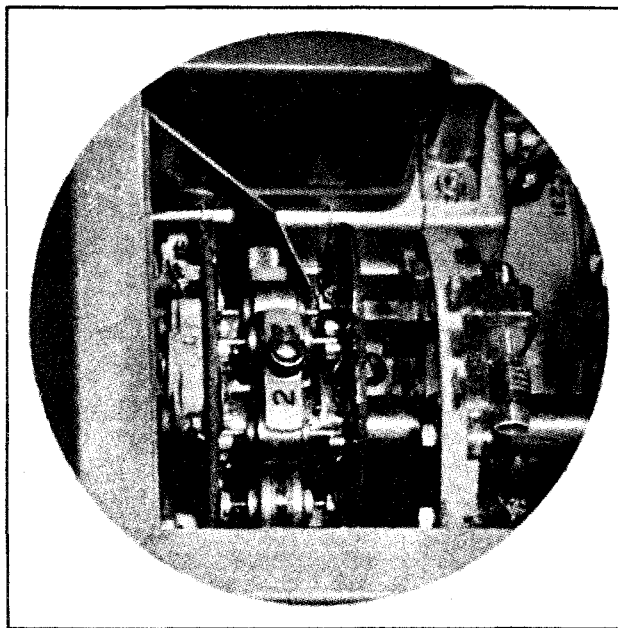

Figure 7-3.—Crystal Mounting Details.
(1) Turn the control panel CHANNEL SELECTOR until the crystals to be removed are uppermost in the turret. The channel number on the crystal lock bar (figure 7-3) will convey this information whereas the CHANNEL SELECTOR position will not.
(2) Lift up the crystal lock bar and turn it 90° from the position shown in the illustration; then,